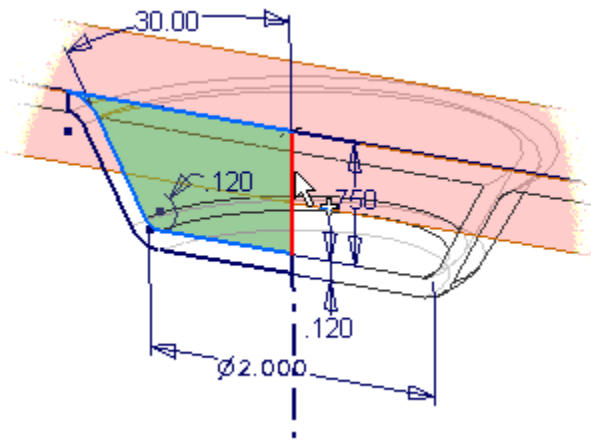

Figure 19: Revolved cut selections.
4. Press the R key to start the Revolved feature tool. Click inside the profile if it is not automatically selected. Select the vertical sketched line as the revolve axis, as shown in Figure 19. Select the Subtract option in the Revolve dialog box and click OK.